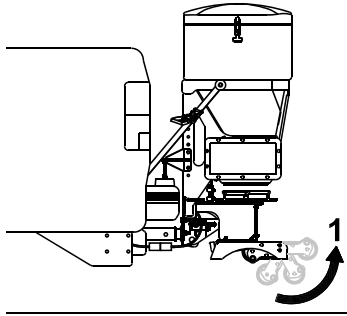

Figure 19
3. Pivot the leg-assembly wheels from under the spreader (Figure 19).